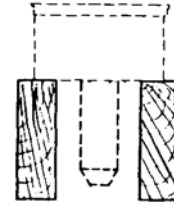

Figure 3
1. Remove bonnet and poppet assembly from valve and place on wooden blocks. (See Figure 3.)
1. Rest the bottom of the poppet on blocks. (See Figure 3.)